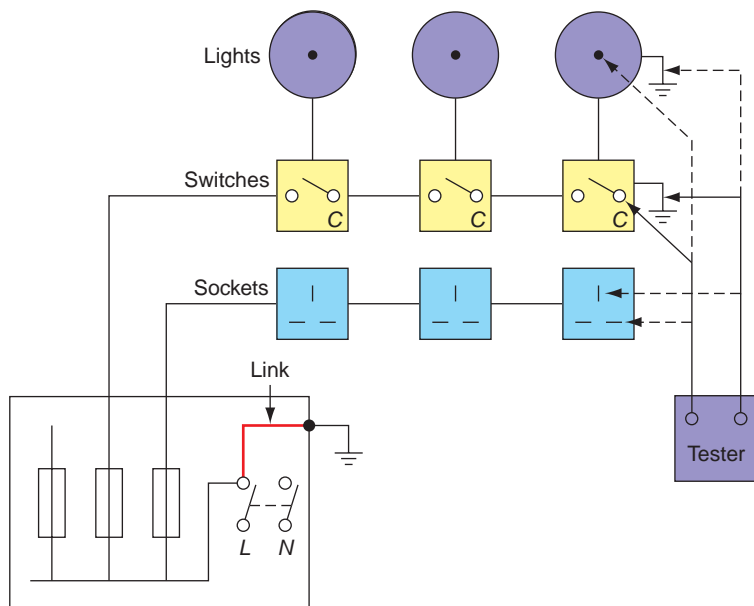

Figure 4.36 Testing polarity.
- 3 **fix a temporary link** between line and earth on the consumer's side of the main switch as shown in Fig. 4.36